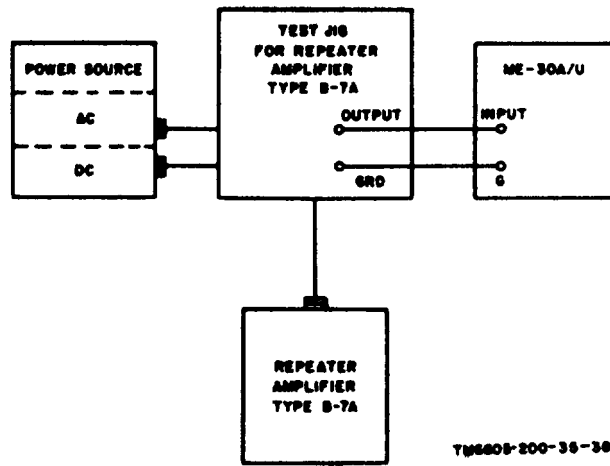

Figure 29. Test setup for final test of Repeater Amplifier Type B-7A.
- (1) Connect the equipment as shown in figure 29.
- (2) Operate the range selector switch on the ME-30A/U to the 30-volt range.
- (3) Operate the power switch on the ME-30A/U to the ON position and wait the required warmup time (TM 11-5132).
- (4) Operate the switches on the test jig to positions as follows: